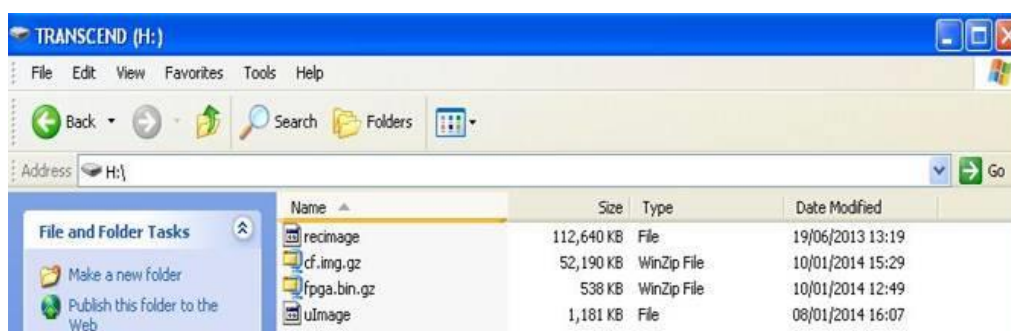

Figure 6-22 USB Memory Stick Root Folder
- There should now be 4 files in the memory stick's root folder as shown in **Figure 6-22**.